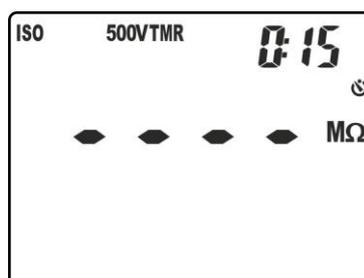

Fig. 20: Setting the measuring time in TMR mode
5. Press keys **▼/⚡** or **▲/ZERO** to select the measuring time (timer) choosing among the options: **15s, 30s, 1min, 5min, 10min**. Please note the value in the right part of the display on the right (see Fig. 20).
5. Press keys **▼/⌘** or **▲/ZERO** to select the measuring time (timer) choosing among the options: **1min** (for DAR measurement) or **10min** (for PI measurement). Please note the value in the top part of the display on the right (see Fig. 20).